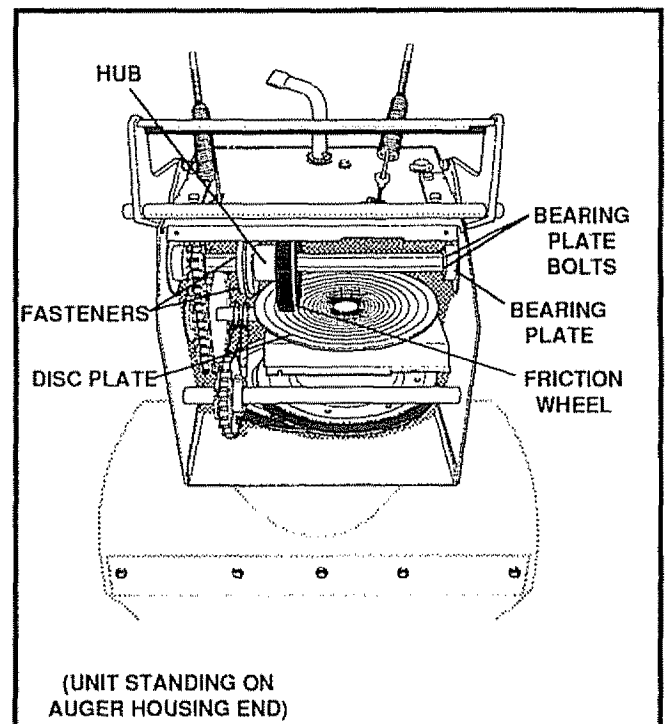

FIG. 36
- Stand the snow thrower up on the auger housing end (See Fig. 36).
- Remove the four bolts securing bearing plates (both sides) (See Fig. 36)
- Position new friction wheel onto hub. See Fig. 36.